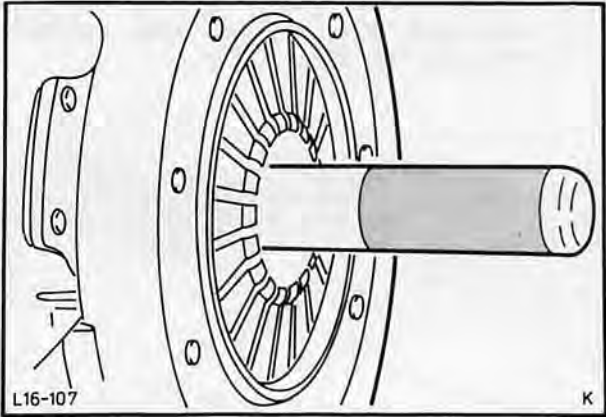

Fig. 133. Fit pressure plate and clutch disc using centering tool 21-044/21-080
- 2. Locate pressure plate and clutch disc on flywheel with Special Tool 21-044/21-080, ensuring that flat side of clutch disc faces the flywheel, Fig. 133.